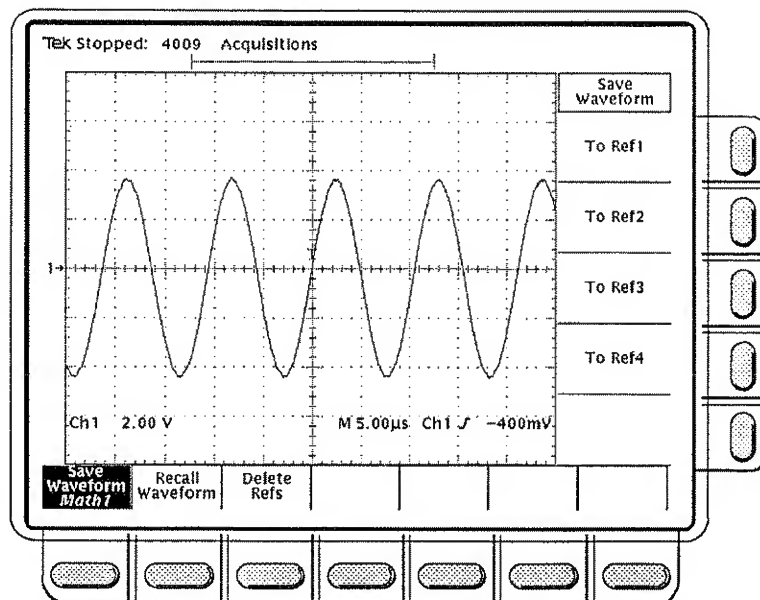

Figure 3-59: Save Waveform Menu
- ☐ **Step 1:** Press the save/recall **WAVEFORM** button to call up the Save/Recall Waveform menu (Figure 3-59).